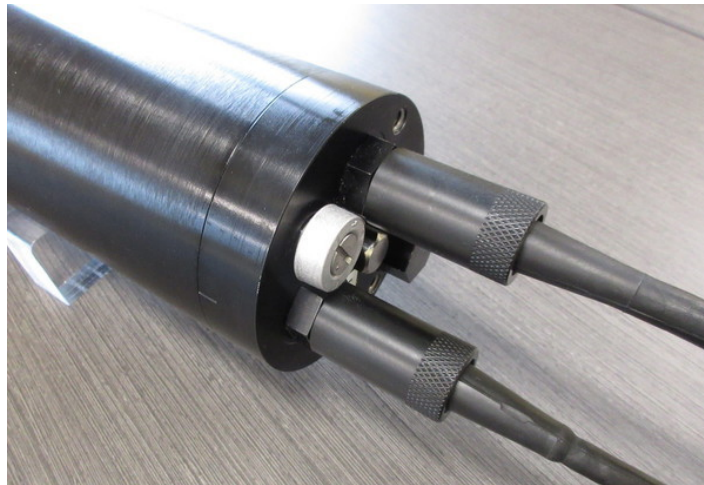

Figure 30: Connecting the deck cable to the instrument
1. Connect the deck cable to the instrument by connecting the two underwater connectors (Figure 30):